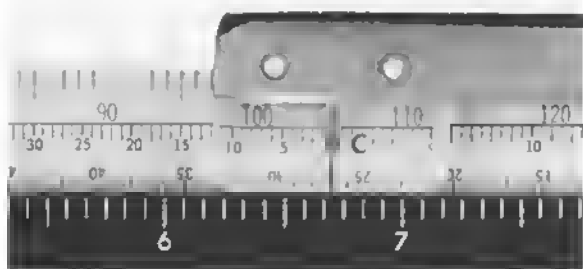

Figure 65
2. Move carriage and align gunsight with "0" of centering scale (Figure 65). Use either increment space or back space key to align.